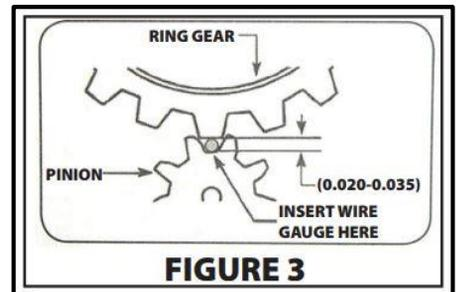

FIGURE 3
- 4) GEAR MESH:** Carefully engage the starter pinion into the ring gear by either prying the gear out or supplying 12V to only the ignition post of the solenoid (Do not hold this voltage more than 5 seconds at a time). Use the supplied pin gauge to check the clearance between the two gears (Figure 3). This clearance should be 0.020-0.035, if the gear mesh is too tight install supplied block shims one at time until desired clearance is achieved. NOTE: The starter gear may stay engaged until the engine fires, DO NOT add shims in response to this. In some cases the gear mesh may be too loose without shims installed, in these cases the starter mounting block can be machined accordingly until correct tolerance is achieved.